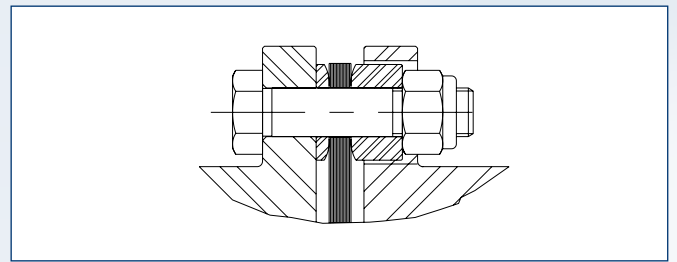

Fig. 8: G series Hardware Arrangement
1. Once the hubs are aligned in the axial, angular and parallel directions, install the disc pack and sleeve. Figures 8 and 9, page 61 show the hardware orientation for each coupling type.